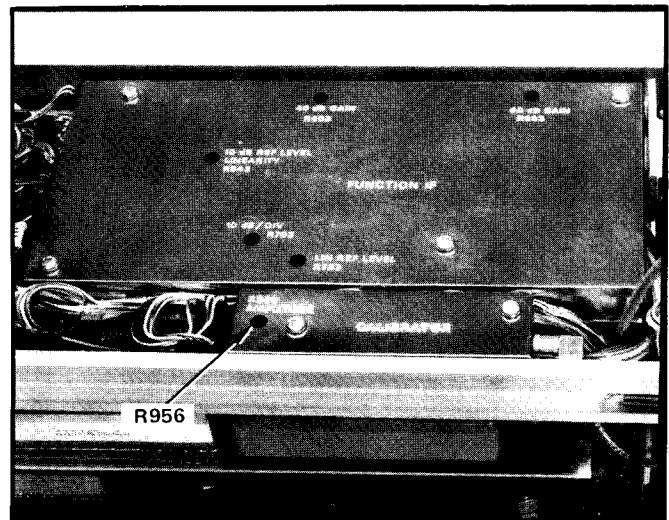

Fig. 4-21. Location of R956, Calibrator Output Level adjustment.
- 4) The calibrator output level can be adjusted by, removing the left vertical plug-in unit and the oscilloscope left side panel to gain access to the 7L13 calibrator. Adjust R956 (Fig. 4-21) for an output level of  $-30$  dBm (7.07 mV RMS).